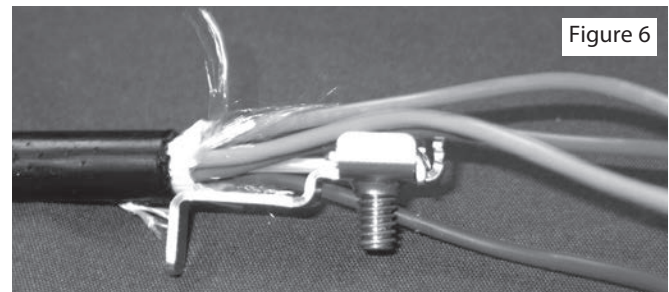

Figure 6
- Secure the strength member into the strength member attachment bracket. The buffer tubes, ribbons, or loose fibers should pass over or around the head of the strength member attachment bolt. (Fig. 6)